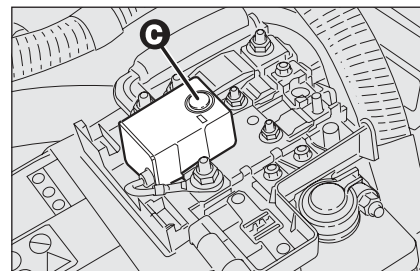

fig. 63
- ☐ press button **C-fig. 63** to reset the power supply cut-off switch.